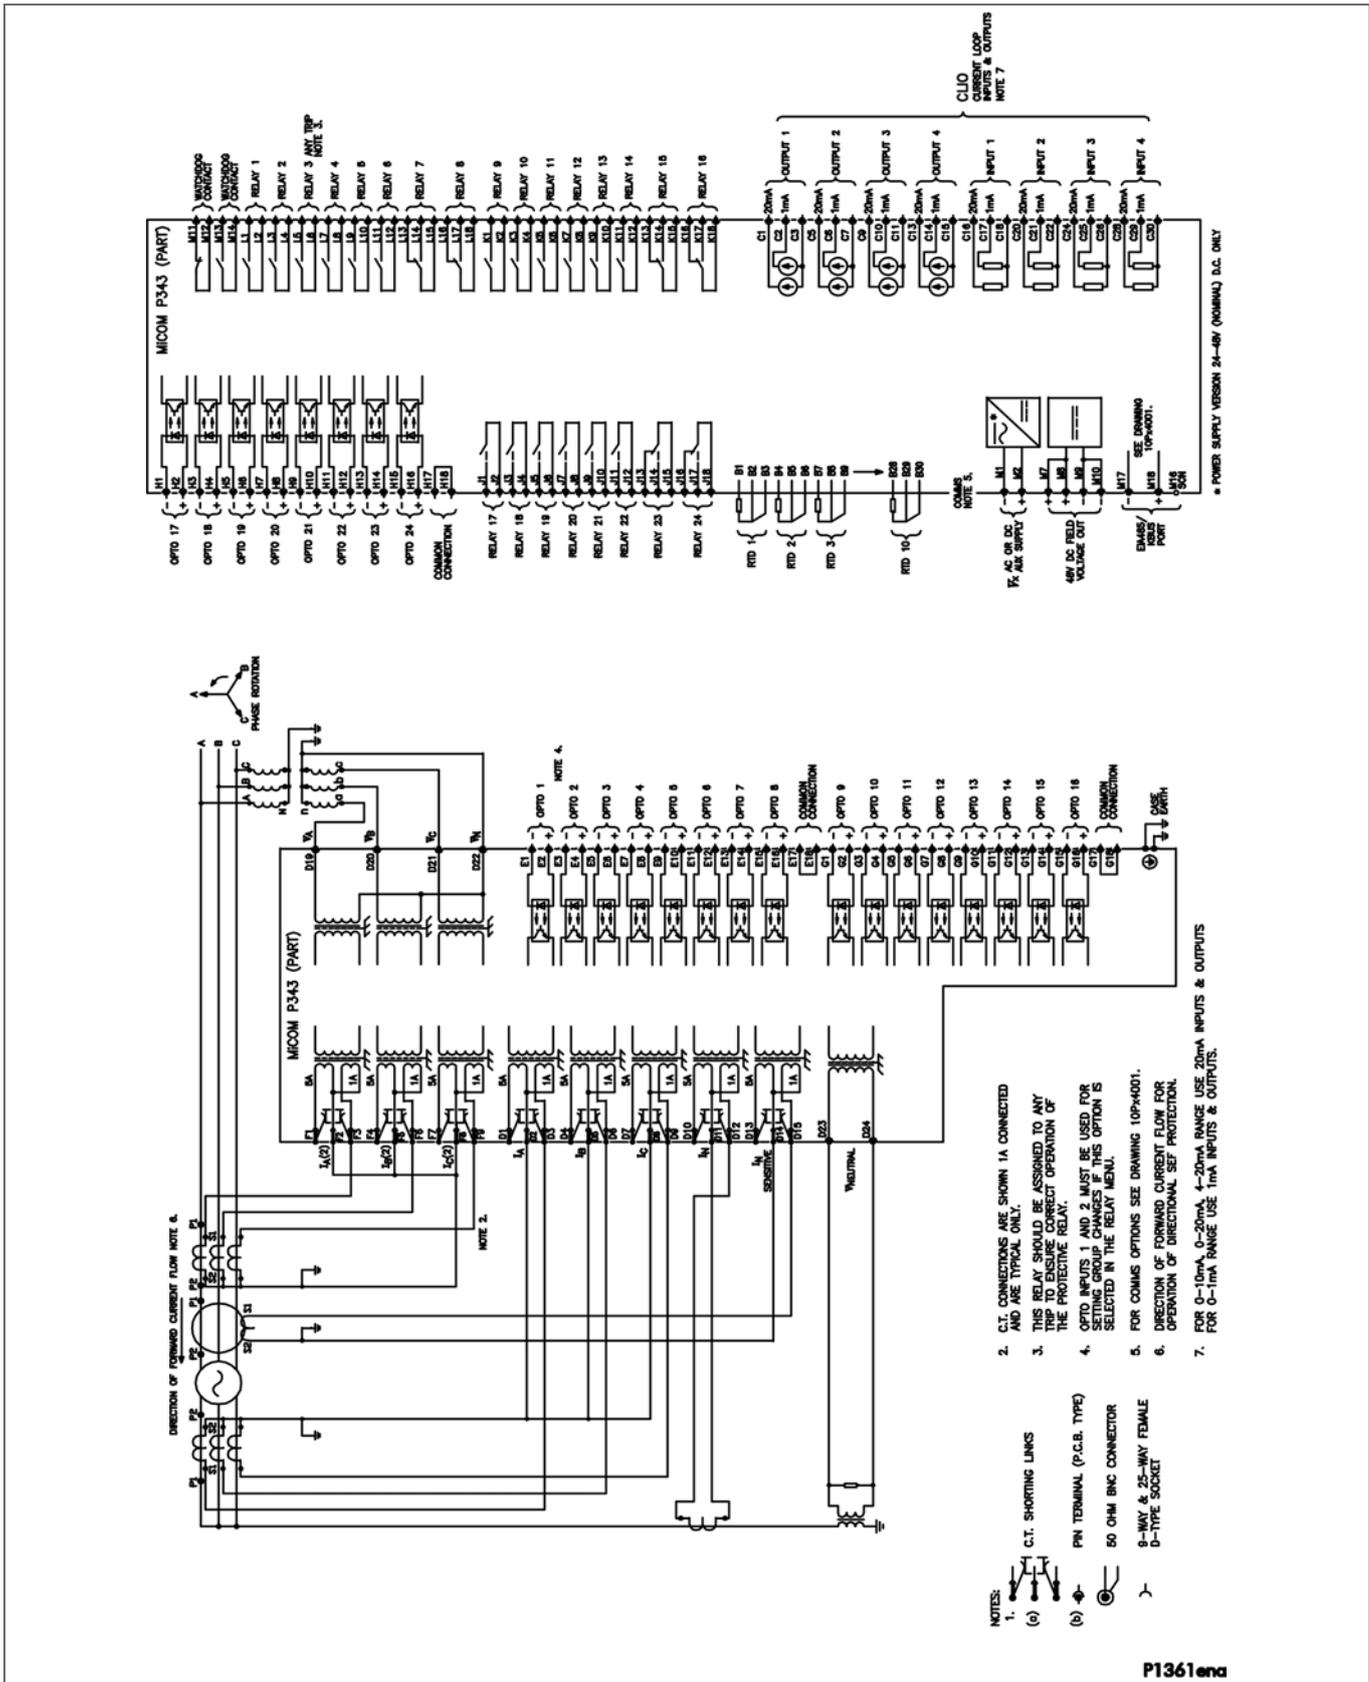

Figure 65 - P343 (80TE) with biased differential (24 I/P & 24 O/P RTDs & CLIO)
- Figure 65 - P343 (80TE) with biased differential (24 I/P & 24 O/P RTDs & CLIO)